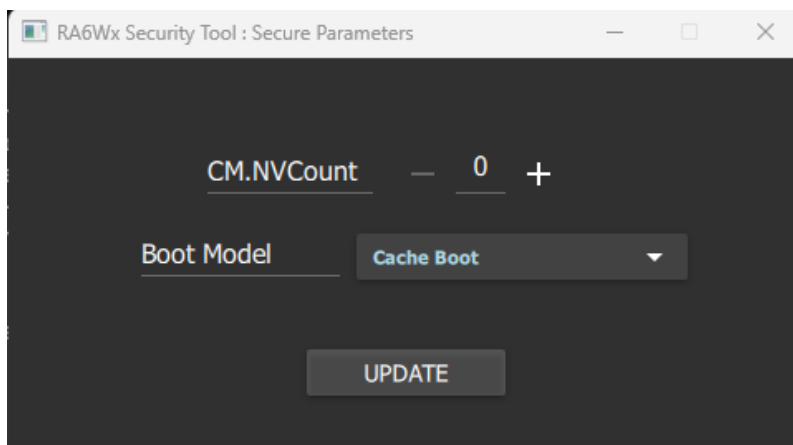

Figure 21. Secure Production – CM NV count selection
- In the **Secure Parameters** window (Figure 21), adjust the NV count value relative to CM, if necessary. Click **Update** to continue.